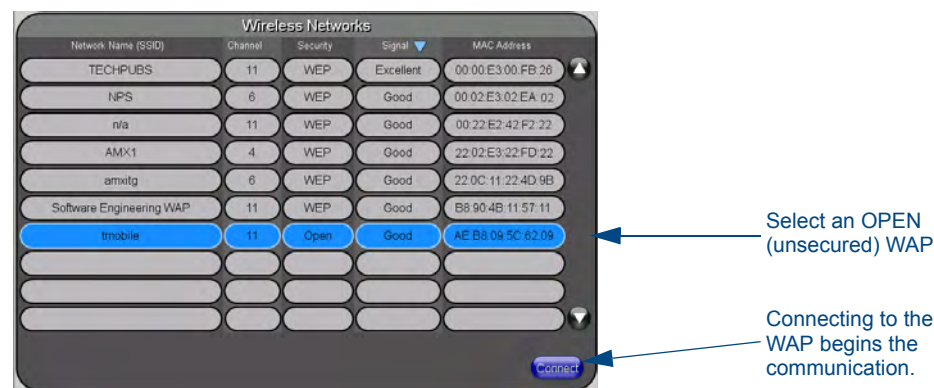

FIG. 22 Site Survey of available WAPs (Unsecured WAP shown selected)
- Automatically filling it by pressing the **Site Survey** button. From the *Site Survey* page, choosing an **Open WAP** from within the *Site Survey* page and then pressing the **Connect** button at the bottom of the page (FIG. 22).